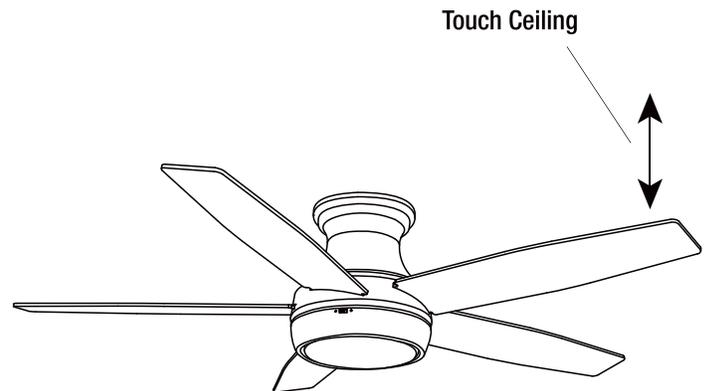

Figure 13
- Most fan wobble problems are caused when blade levels are unequal. Check this level by measuring the distance from the tip of one blade to the ceiling as shown in Figure 13.
Excessive Wobbling.	<ul style="list-style-type: none">□ Make sure that screws which attach fan blade holders to motor are fastened and tightened.□ Tighten screws of fan blade to blade holder securely.□ Ensure that canopy and mounting bracket are tightened securely to ceiling joist.□ Check by selecting a point on the ceiling above the tip of one of the blades. Measure this distance and ensure all blades are even (see Fig. 13).